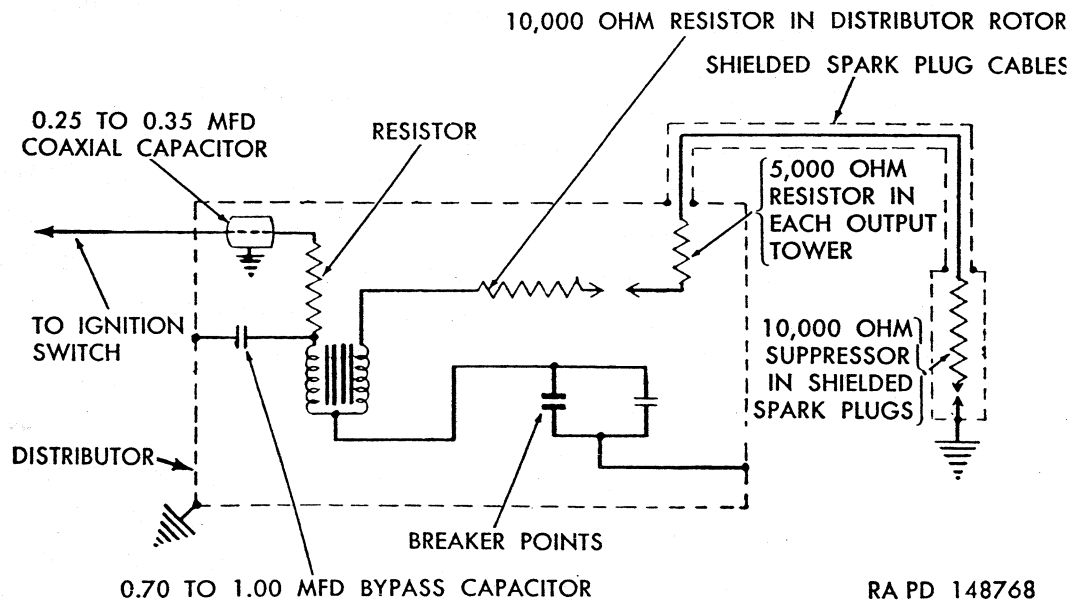

Figure 180. Schematic circuit diagram of ignition system radio suppression units.
*a. Description and Data* (fig. 180). The primary connection at the distributor terminal is equipped with a 0.25 to 0.35 mfd coaxial capacitor which is grounded to the distributor housing. A resistor is connected into the primary circuit ahead of the ignition coil. A 0.70 to 1.00 mfd bypass capacitor is connected to the ignition coil positive (+) terminal and grounded to the distributor housing. A 10,000-ohm resistor is built into the distributor rotor, and each output tower in the distributor cover is equipped with a 5,000-ohm resistor. Spark plug cables are shielded with a metallic braid molded into the cable insulation. A 10,000-ohm resistor is built into each spark plug. Spark plugs are shielded by the metal shells to which the cables connect. Capacitors and the primary circuit resistor can be replaced if defective.